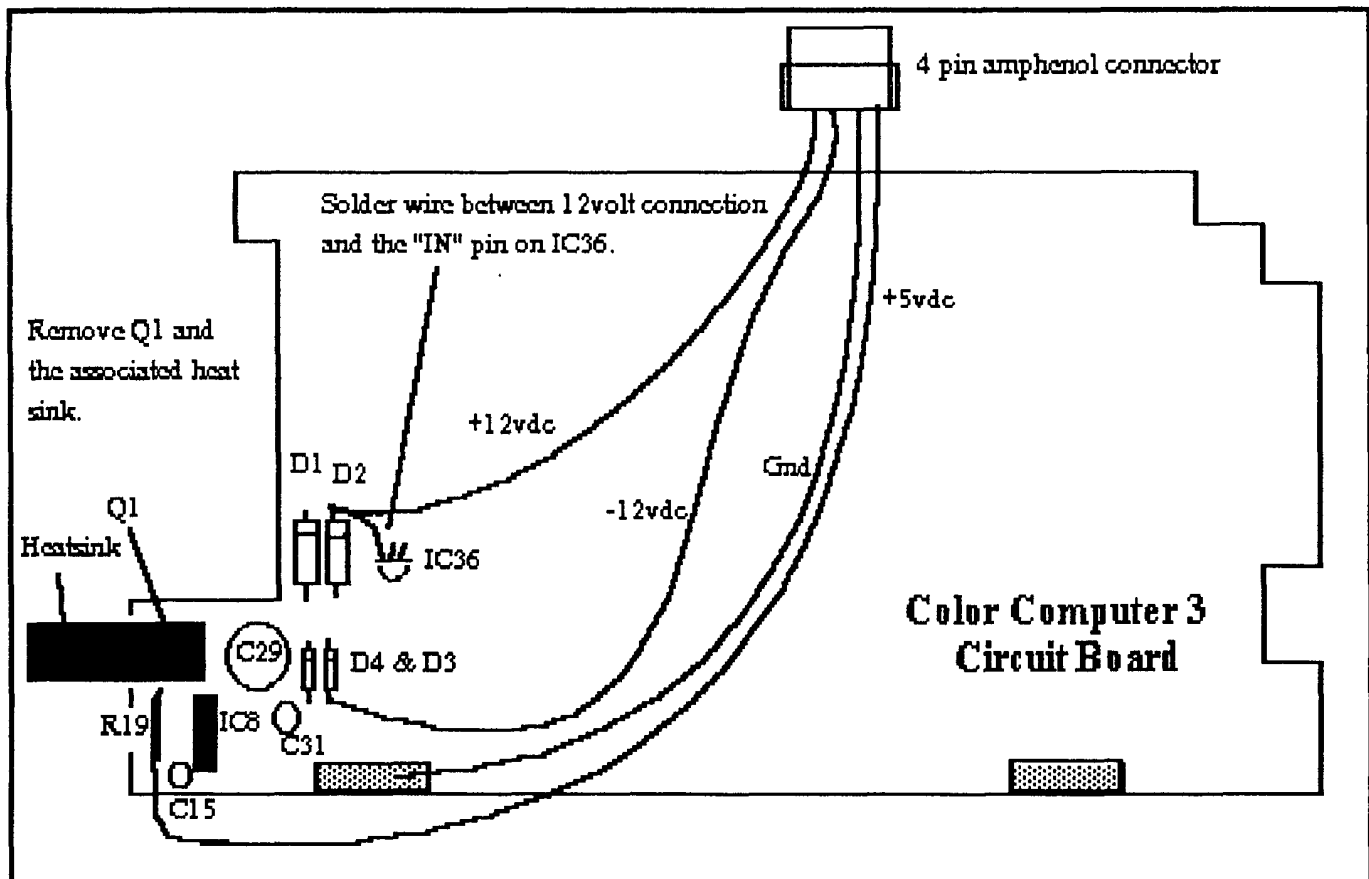

Fig 1.
10. **CONNECTING PC POWER SUPPLY:** Solder approximately 1 foot of hook up wire to the +12 vdc, -12 vdc, +5 vdc and Ground traces on the multipak, and the Color Computer circuit board. 12. Solder a short length of wire from the +12 vdc connection on the Color Computer to the +8 vdc regulator on the Color Computer circuit board. (See pages 6, 7 & 8, Fig. 1, 2, 3, 4 & 5)
REGARDLESS OF WHICH MULTIPAK YOU USE, connect the wires to the same amphenol connector that you attached to the CoCo-3 Circuit Board (See Figure 1). Check your work using an ohm meter/continuity checker to be sure that the corresponding voltage lines on both the Multipak and the CoCo-3 are connected to the same pins on the amphenol connector.